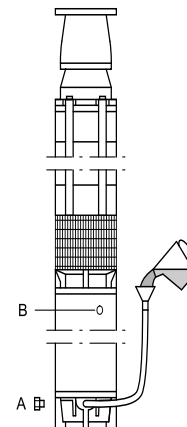

Fig. 4
1. Position the submersible pump as shown in fig. 4.
2. Remove the screw (A) from the filling hole and fit the nipple with pipe and funnel supplied with the motor.
3. Remove the air vent screw (B) to allow possible air in the motor to escape.
5. Stop pouring water into the motor. Refit the screw (B) to the vent hole and remove pipe and funnel. Replace the screw (A) in the filling hole and tighten securely.